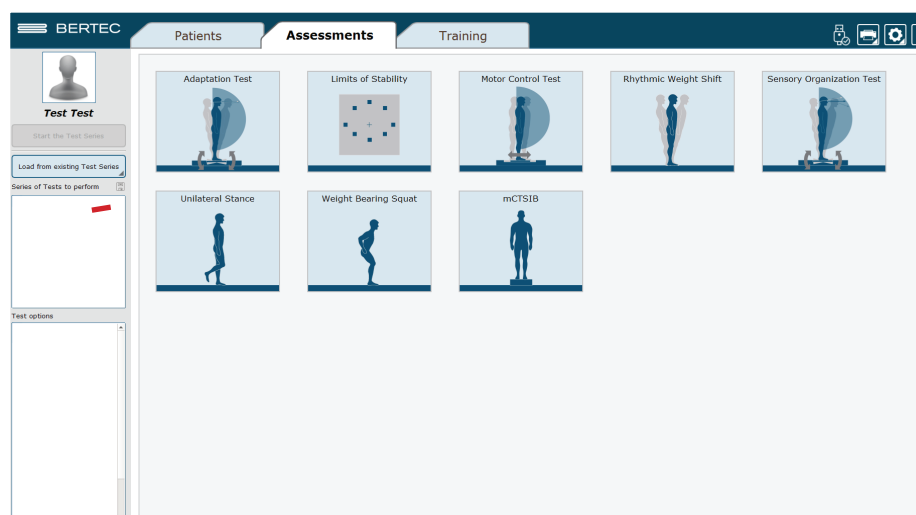

Figure 23: Assessment Tab: Test Setup.
2. To perform new assessments, click the *Assessments* tab, shown in Figure 23, then drag and drop the desired assessment(s) into the Test Series List, located on the left.